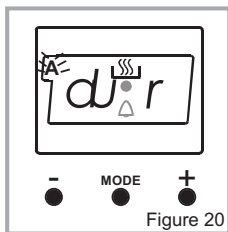

Figure 20
First; keep pressing on the MODE button until you see “stop” on the timer screen. When you see “stop” on the timer screen, the symbol (A) will begin to flash. Adjust the cooking period for the food you wish to cook, by using the (+) and (-) keys while timer is in this position. Some time after the adjustment operation is completed, the day’s time will appear on the screen and the symbols (A) and  will begin to continuously light on the screen (Figure 20).